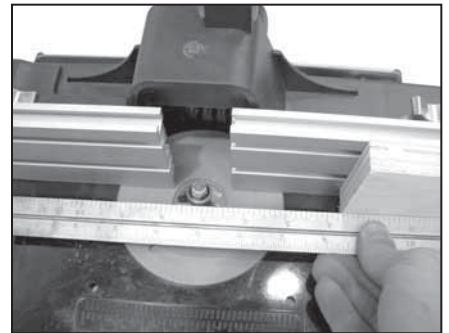

Figure 23
2. Using the infeed side of the fence as your guide, determine the proper depth of cut. Secure the fence. See Figure 23.